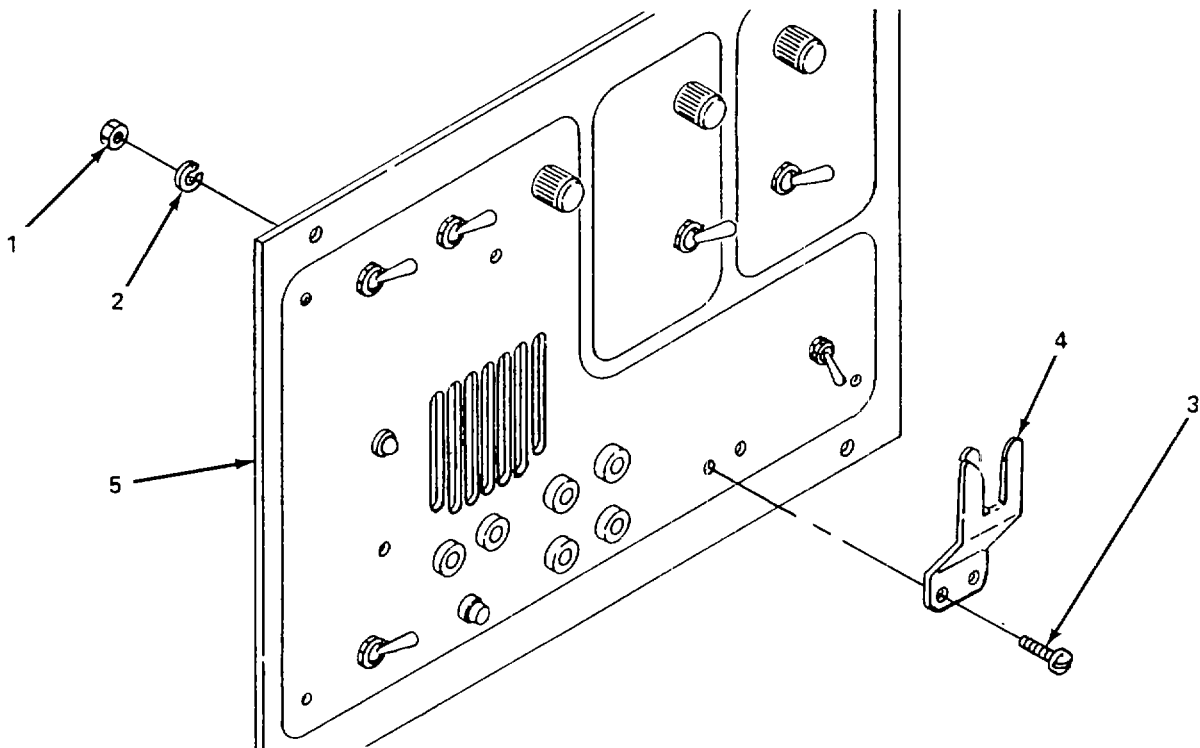

Figure 5-37. Front Panel Chassis Assembly Microphone Holder, Replace.
(6) *Replace microphone holder.* (figure 5-37)
- (b) Remove two nut (1), washers (2) and screws (3).
- (c) Remove microphone holder (4) from panel chassis assembly (5).
- (d) Install microphone holder (4) on panel chassis assembly (5) and secure with two screws (3), washers (2), and nut (1).